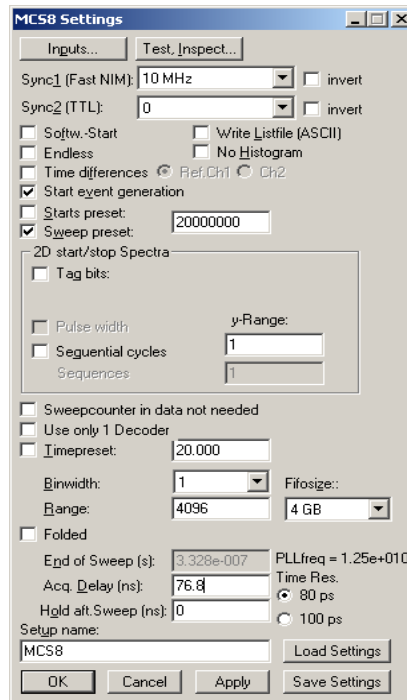

Fig. 2.10: MCS8 Settings – Acquisition Delay
76.8 ns (settable in steps of 5.12 ns only) after the START event. Go to the MCS8 Settings window again and insert '76.8' in the Acq. Delay field (ref. Fig. 2.10). With all other settings left as before we will expect the first 960 time bins of the above spectra to "disappear" i.e. the spectra being shifted left by 960 bins or 76.8 ns.